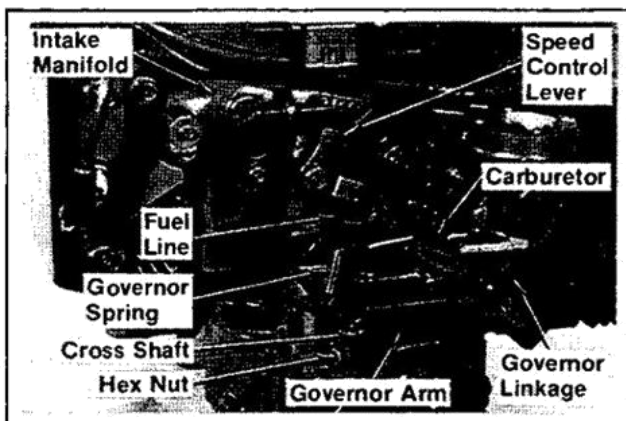

Figure 11-54. Installing External Governor Components.
8. Install governor spring to governor arm and speed control lever. Refer to Figure 11-54. Make sure spring is installed in the same positions as noted during disassembly, for proper operation.